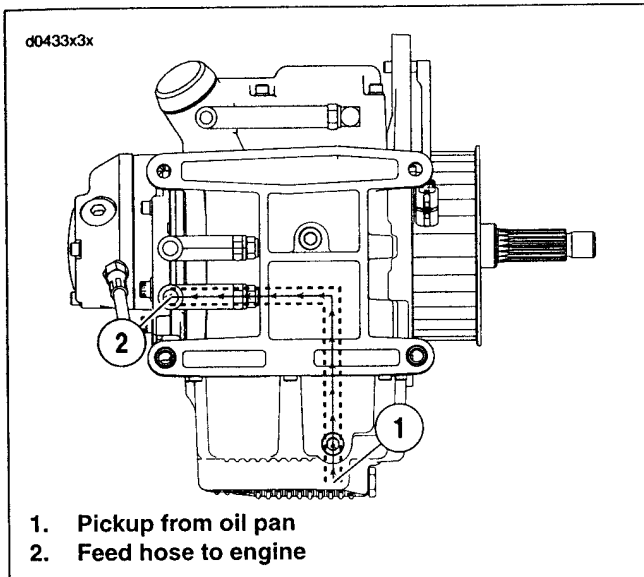

Figure 3-1. Oil Flow From Pan
See Figure 3-1. Oil flows from the oil pan (1) through a passageway at the front of the transmission housing into a flexible hose clamped to the lower fitting (2) at the rear right side of the crankcase.